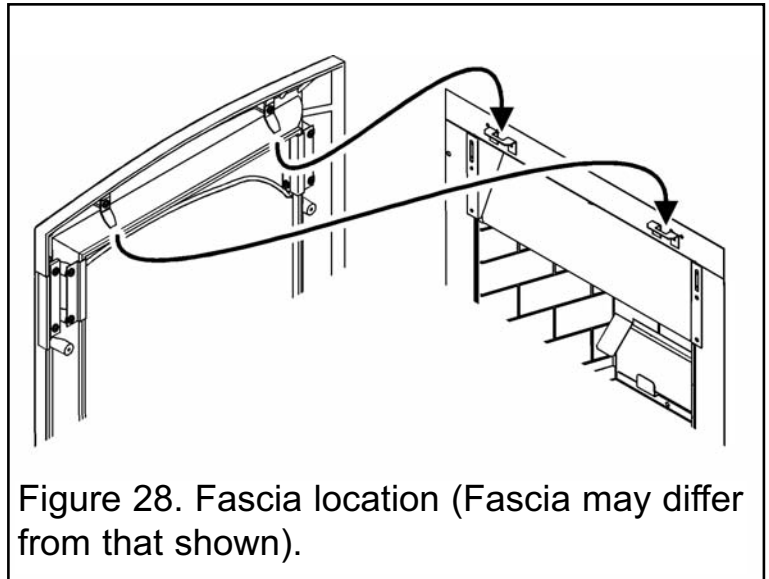

Figure 28. Fascia location (Fascia may differ from that shown).
1. Carefully lift the fascia. Place the fascia against the fireplace front surface so that the two retaining plates at the back of the fascia are directly above the two upper retaining brackets at the top of the hotbox. Lower the fascia unit making sure that the retaining plates locate fully into the brackets on the hotbox (See figure 28). If the inlet pipe runs along the front of the fireplace, the bottom of the fascia will have to be swung forward to clear the pipe while lowering the fascia.
1. Carefully lift the fascia. Place the fascia against the fireplace front surface so that the two retaining plates at the back of the fascia are above the two upper retaining brackets at the top of the hotbox. Lower the fascia making sure that the rear retaining plates locate fully into the retaining brackets on the hotbox (See figure 28). If the inlet pipe runs along the front of the fireplace, the bottom of the fascia will have to be swung forwards to clear the pipe while lowering the fascia.